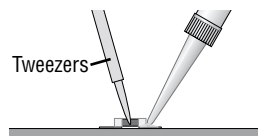

Figure 1.4.
- 2 Grasp the component in the middle with tweezers. Melt the small mound of solder with the iron and place the component across the two pads (in the correct orientation, if the component is sensitive to direction) and press it flat against the circuit board, with one end of the component immersed in the melted solder (Figure 1.4).